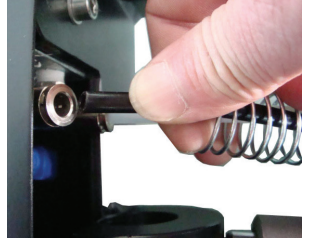

Fig. 04
- Connect the hose and the spring to the lifting device .The white hose is connected under the black hose. Fig. 04.